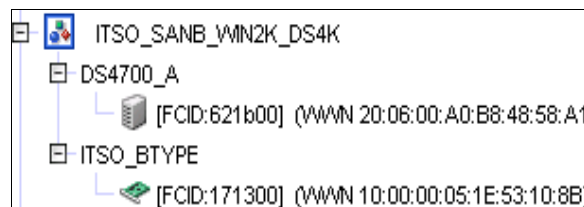

Figure 12-16 Aliases in zone
6. The Zones Section now has the aliases in the zone **ITSO_SANB_WIN2K_DS4K**. See Figure 12-16.